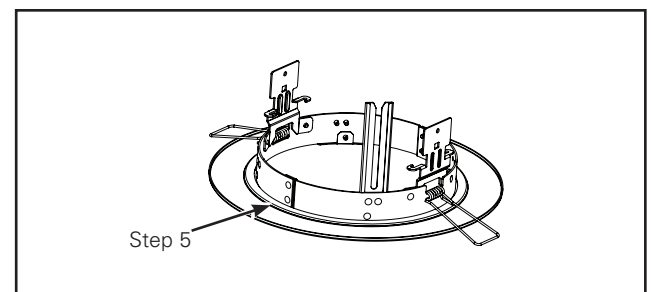

Figure 2. Installation Steps
5. Confirm the ring sits flat on the four flanges at the rim (Figure 2.).